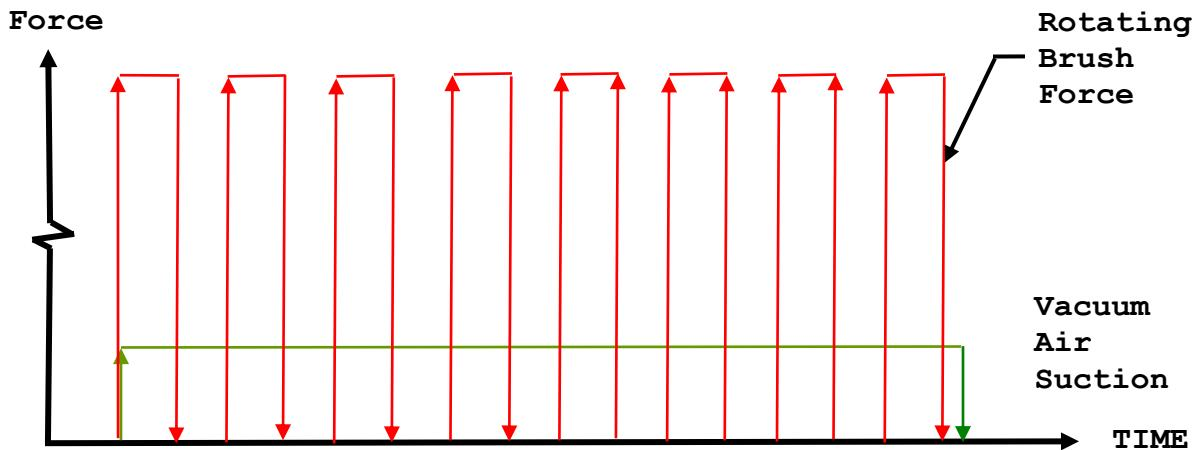

Figure 5. Force Time Domain
Step 5: Draw the pre, post, and during conflict time domain. The time domain of primary and harmful functions indicate steady state air suction or pulling force, and an intermittent pulling force exerted by the rotating electric power brush. (See Figure 5)